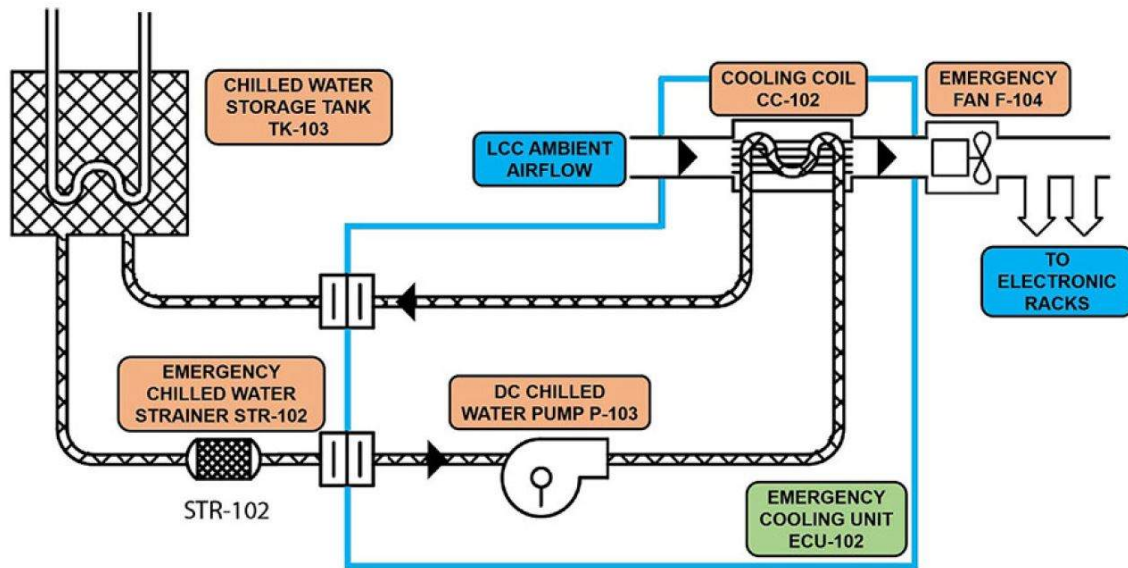

Figure 4-15. Emergency chilled water system diagram.
Before we dive into specifics on the function and operation of ECU-102, it is prudent for us to step back and look at the emergency chilled water system (fig 4-15), since this is the source of cool liquid for ECU-102. In this discussion, we will look at direct current (DC) chilled water pump P-103, cooling coil CC-102, as well as the piping and other components of the emergency chilled water system.